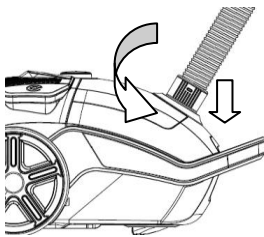

Fig 1
1. Connect the hose accessory: insert the hose end into the hose socket at the front cover and then hook it. (Fig 1)